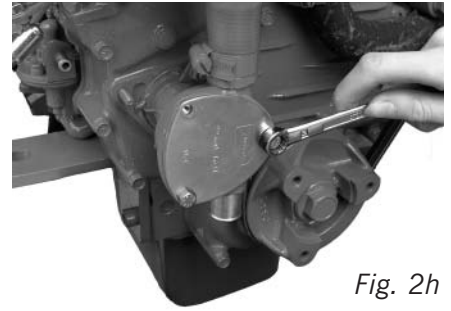

Fig. 2h
(1) It is very important that the correct sea water flow is maintained to cool the closed circuit system of the engine. The key component in this system is the sea water pump impeller. This should be checked every year by removing the circular plate (see fig. 2h)
- (2) Withdraw the rubber impeller from its drive shaft as shown. See diagram 2i.
- (3) Check impeller for cracks in the rubber, excessive wear or lost vanes. Replace with a new impeller as necessary.